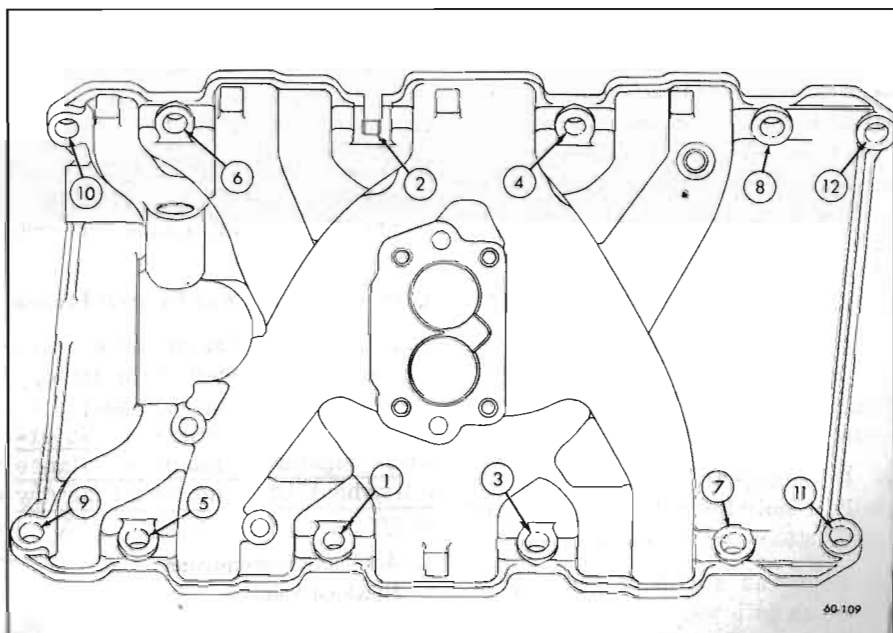

Figure 60-109—Intake Manifold Bolt Tightening Sequence
2. When installing a manifold, start with the #1 and #2 bolts. See Figure 60-109. Gradually tighten both bolts until snug. Then continue with the rest of the bolts in the sequence illustrated in Figure 60-109.